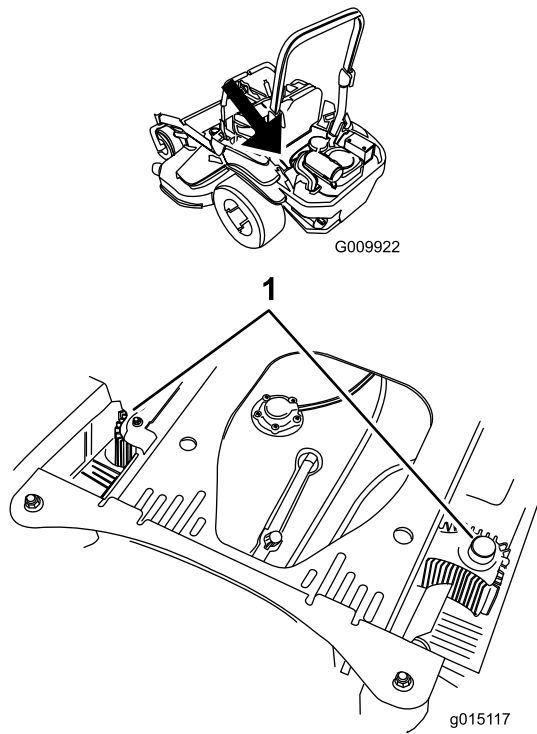

Figure 73
4. Clean the debris and grass from the hydraulic units (Figure 73).